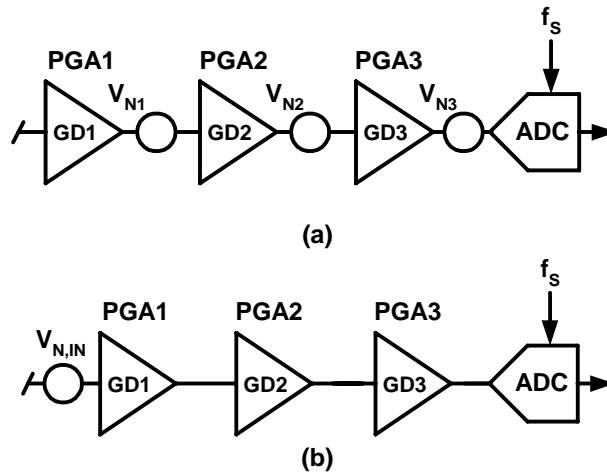
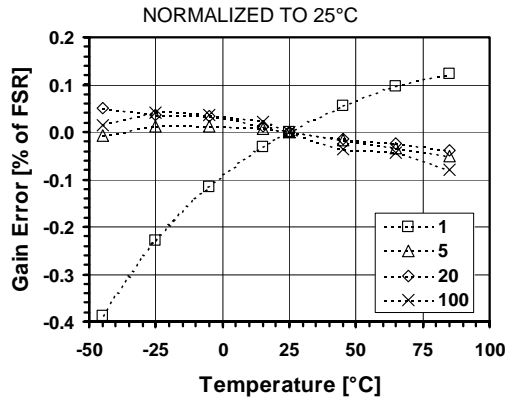

Figure 16-18. (a) Simple noise model for PGAs and ADC and (b) total input referred noise
Figure 16-19. Gain error vs. temperature for different PGA gains
- (1) Gain defined as overall PGA gain $GD_{TOT} = GD_1 \cdot GD_2 \cdot GD_3$. Maximum input voltage is given by: $V_{IN,MAX} = \pm(V_{REF}/2) \cdot (OSR/OSR+1)$.
- (2) Offset due to tolerance on $GDOFF_2$ or $GDOFF_3$ setting. For small intrinsic offset, use only ADC and PGA1.
- (3) Measured with block connected to inputs through AMUX block. Normalized input sampling frequency for input impedance is $f_S = 512kHz$. This figure must be multiplied by 2 for $f_S = 256kHz$, 4 for $f_S = 128kHz$. Input impedance is proportional to $1/f_S$.
- (4) Figure independent from PGA1 gain and sampling frequency f_S . See model of Figure 16-18(a). See equation Eq. 21 to calculate equivalent input noise.
- (5) Figure independent on PGA2 gain and sampling frequency f_S . See model of Figure 16-18(a). See equation Eq. 21 to calculate equivalent input noise.
- (6) Figure independent on PGA3 gain and sampling frequency f_S . See model of Figure 16-18(a) and equation Eq. 21 to calculate equivalent input noise.
- (7) Resolution is given by $n = 2 \cdot \log_2(OSR) + \log_2(N_{ELCONV})$. OSR can be set between 8 and 1024, in powers of 2. N_{ELCONV} can be set to 1, 2, 4 or 8.
- (8) If a ramp signal is applied to the input, all digital codes appear in the resulting ADC output data.
- (9) Gain error is defined as the amount of deviation between the ideal (theoretical) transfer function and the measured transfer function (with the offset error removed). (See Figure 16-19)
- (10) Offset error is defined as the output code error for a zero volt input (ideally, output code = 0). For ± 1 LSB offset, N_{ELCONV} must be ≥ 2 .
- (11) INL defined as the deviation of the DC transfer curve of each individual code from the best-fit straight line. This specification holds over the full scale.
- (12) DNL is defined as the difference (in LSB) between the ideal (1 LSB) and measured code transitions for successive codes.
- (13) Figures for Gains = 1 to 100. PSRR is defined as the amount of change in the ADC output value as the power supply voltage changes.
- (14) Conversion time is given by: $T_{CONV} = (N_{ELCONV} \cdot (OSR + 1) + 1) / f_S$. OSR can be set between 8 and 1024, in powers of 2. N_{ELCONV} can be set to 1, 2, 4 or 8.
- (15) PGAs are reset after each writing operation to registers RegAcCfg1-5. The ADC must be started after a PGA or inputs common-mode stabilisation delay. This is done by writing bit $Start$ several cycles after PGA settings modification or channel switching. Delay between PGA start or input channel switching and ADC start should be equivalent to OSR (between 8 and 1024) number of cycles. This delay does not apply to conversions made without the PGAs.
- (16) Nominal (maximum) bias currents in PGAs and ADC, i.e. $IB_AMP_PGA[1:0] = '11'$ and $IB_AMP_ADC[1:0] = '11'$.
- (17) Bias currents in PGAs and ADC set to 3/4 of nominal values, i.e. $IB_AMP_PGA[1:0] = '10'$, $IB_AMP_ADC[1:0] = '10'$.
- (18) Bias currents in PGAs and ADC set to 1/2 of nominal values, i.e. $IB_AMP_PGA[1:0] = '01'$, $IB_AMP_ADC[1:0] = '01'$.
- (19) Bias currents in PGAs and ADC set to 1/4 of nominal values, i.e. $IB_AMP_PGA[1:0] = '00'$, $IB_AMP_ADC[1:0] = '00'$.
The simple noise model of Figure 16-18(a) is used to estimate the equivalent input referred rms noise $V_{N,IN}$ of the acquisition chain in the model of Figure 16-18(b). This is given by the relationship:
Note: see noise model of Figure 16-18 and equation Eq. 21.
Figure 16-19 shows gain error drift vs. temperature for different PGA gains. The curves are expressed in % of Full-Scale Range (FSR) normalized to 25°C.